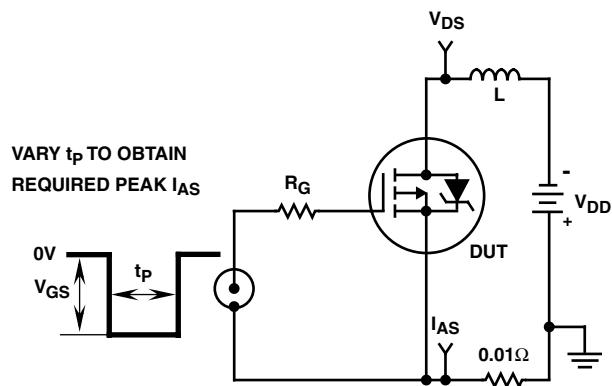

FIGURE 15. UNCLAMPED ENERGY TEST CIRCUIT
4.  $V_{DD} = 50\text{V}$ , starting  $T_J = 25^\circ\text{C}$ ,  $L = 9.8\text{mH}$ ,  $R_G = 25\Omega$ , peak  $I_{AS} = 11\text{A}$ . See Figures 15, 16.